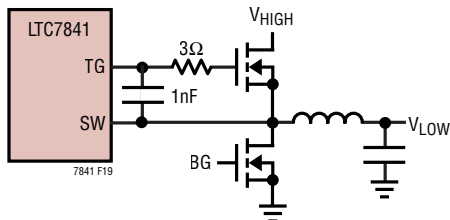

Figure 19. Filter for TG Traces > 25mm
2. The TG traces from the controller IC to the gate of the external MOSFET should be kept as short as possible to minimize the parasitic inductance. This inductance can cause voltage spikes that can potentially exceed the ABS Max rating of the drivers and damage them. A 3 Ω resistor and 1nF capacitor can be used to filter these spikes as shown in Figure 19. If the TG traces are longer than 25mm, this filter network must be used on both TG1 and TG2. The 1nF capacitor should be placed as close to the TG/SW pins as possible.